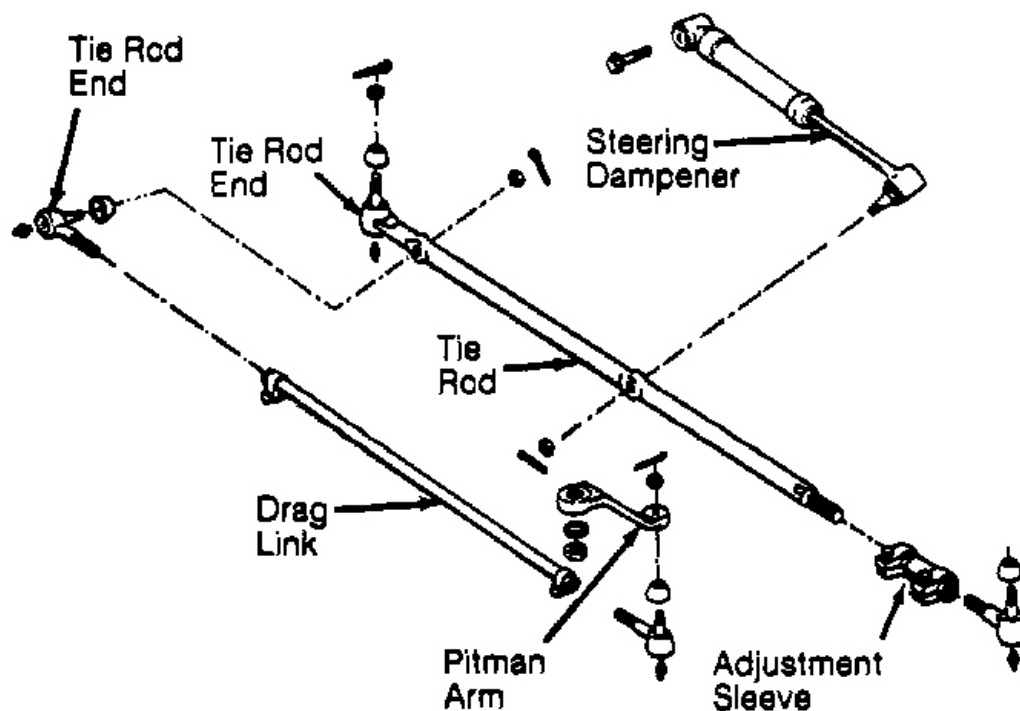

Fig. 3: Exploded View Of Steering Linkage (Wrangler)
2. Loosen tie rod adjustment sleeve clamp bolts. See **Fig. 3** . Rotate sleeve to adjust toe to specification. See **ALIGNMENT SPECIFICATIONS** . After adjustment, position clamp bolts so threaded ends face rearward and are angled upward. Tighten sleeve clamp to specification. See **TORQUE SPECIFICATIONS** .